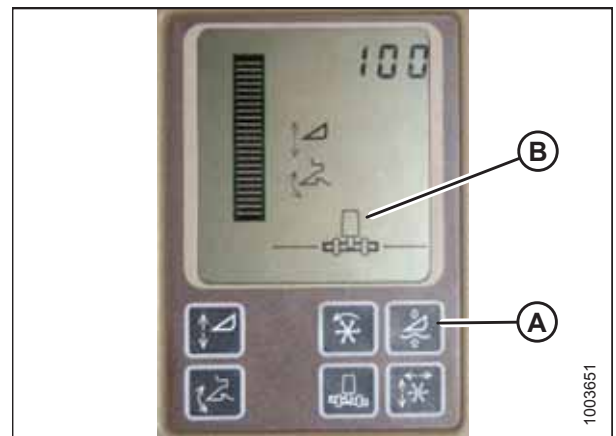

Figure 3.439: John Deere Combine Display
Do **NOT** use the active header float function (A) in combination with the MacDon auto header height control (AHHC)—the two systems will counteract one another. Header symbol (B) on the display should **NOT** have a wavy line under it and should appear exactly as shown on the Active Header Control Display in Figure 3.439, page 253.